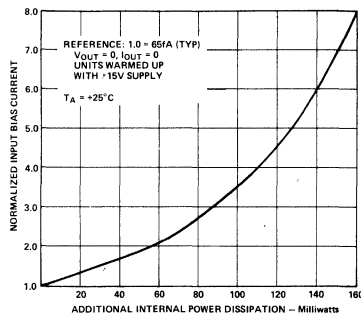

Figure 9. Input Bias Current Versus Additional Power Dissipation
- Output loading effects, which are normally ignored, can cause a significant increase in chip temperature and therefore bias current. For example, a 2kΩ load driven at 10 volts at the output will cause at least an additional 25 milliwatts dissipation in the output stage (and some in other stages) over the typical 24 milliwatts, thereby at least doubling the effects of self-heating. The results of this form of additional power dissipation are demonstrated in Figure 9, which shows normalized input bias current versus additional power dissipated. Therefore, although many dc performance parameters are specified driving a 2kΩ load, to reduce this additional dissipation, we recommend restricting the load impedance to be at least 10kΩ.